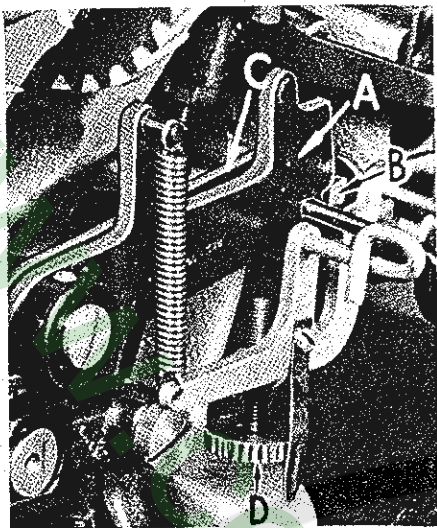
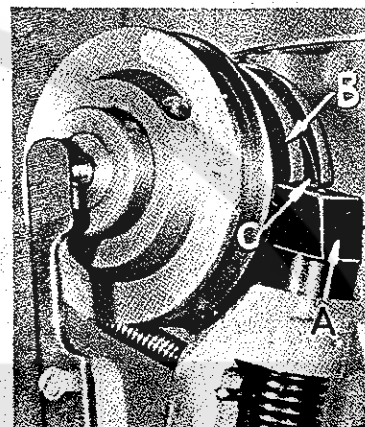

Fig. 15
Fig. 16
Check the pull-off lever plunger (B, Fig. 15) to be sure it operates freely. Looking down into the head of the machine under the front main shaft bearing, loosen the clamp screw in driving crank (A, Fig. 17), and manually raise the pull-off lever
The pull-off lever (A, Fig. 15) is set correctly when it snaps off the plunger (B) as the stop motion plunger (A, Fig. 16) comes to an abrupt stop against the stop motion disc (B) when operating machine by hand.
Check the pull-off lever plunger (B, Fig. 15) to be sure it operates freely. Looking down into the head of the machine under the front main shaft bearing, loosen the clamp screw in driving crank (A, Fig. 17), and manually raise the pull-off lever (A, Fig. 15) and plunger operating lever (C). Then, carefully lower the pull-off lever (A) until it just drops off the point of the plunger (B). Then, carefully tighten clamp screw in driving crank (A, Fig. 17).
If too much thread tail shows on completed tack, turn pull-off lever control screw (D, Fig. 15) clockwise to reduce length of tail. If starting thread is too short, causing loss of stitches, turn the control screw counterclockwise until slight amount of tail shows.